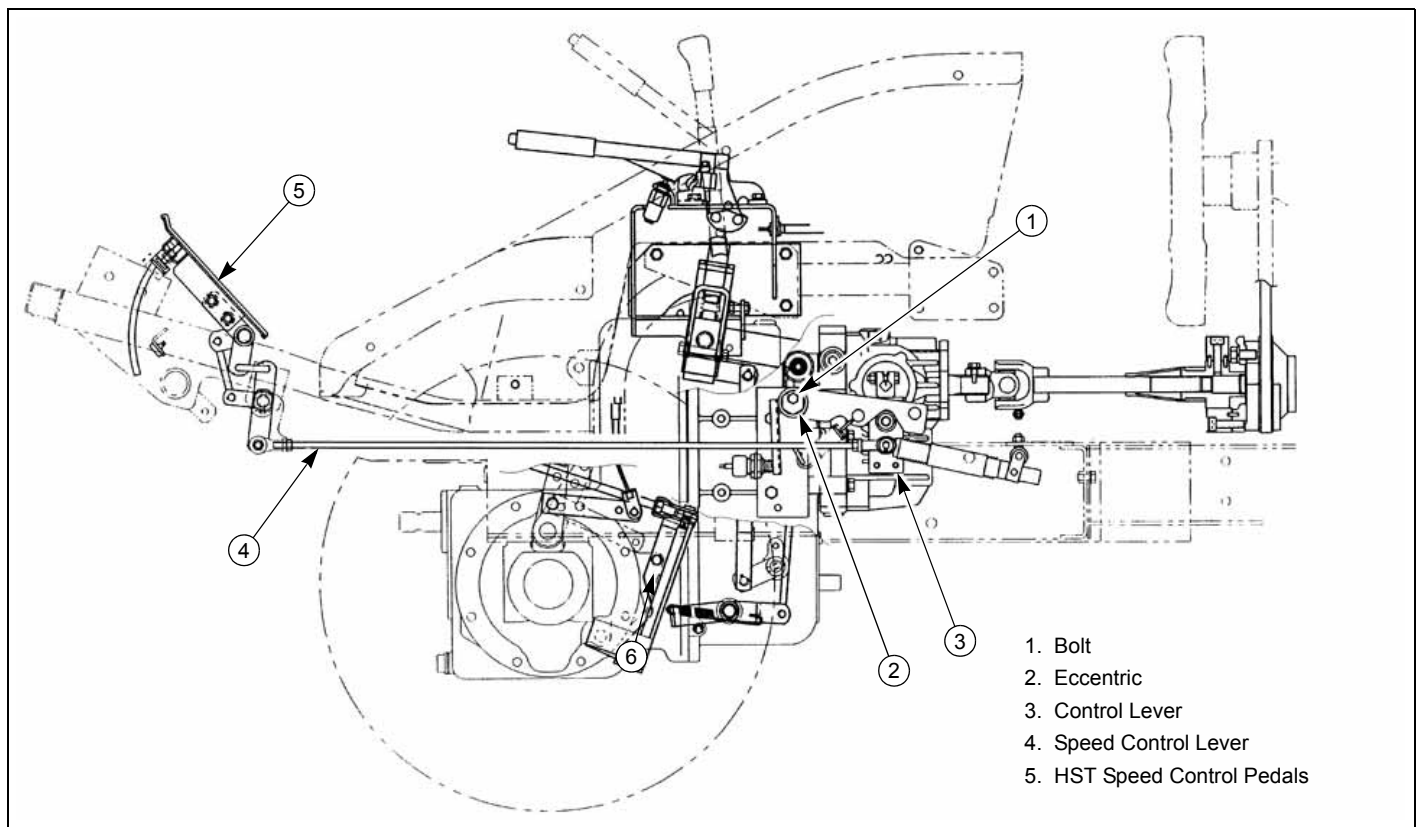

Figure 3-23
- d. If the wheels rotate at this time, loosen bolt ① and rotate the eccentric sleeve ② until the wheels stop. Tighten the bolt ①, when it is properly adjusted. Figure 3-23